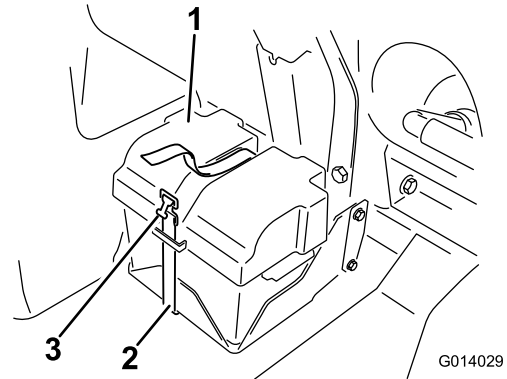

Figure 16
3. Remove the cover on the battery (Figure 16) and disconnect the negative battery cable.
10. Use the strap to secure the cover to the battery box (Figure 16).